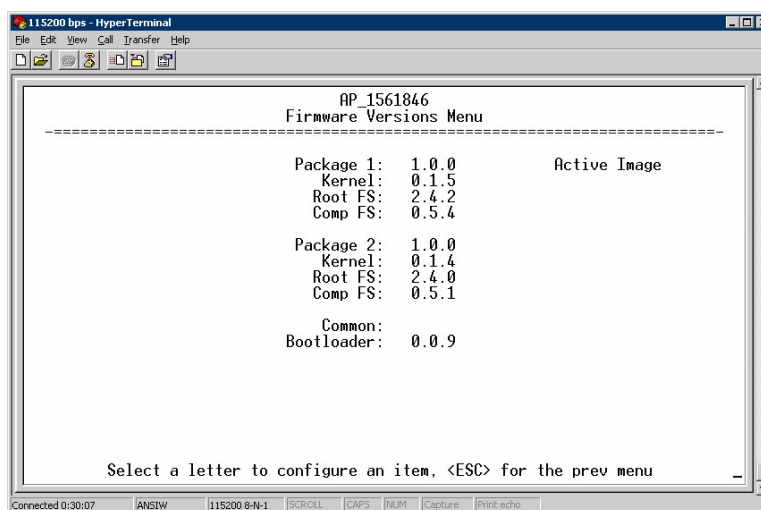

Figure 3-103. Firmware Versions Menu
- **Firmware Versions**—Shows the firmware code versions stored in the radio and indicates which one is the active image. (See Figure 3-103 on Page 127.)